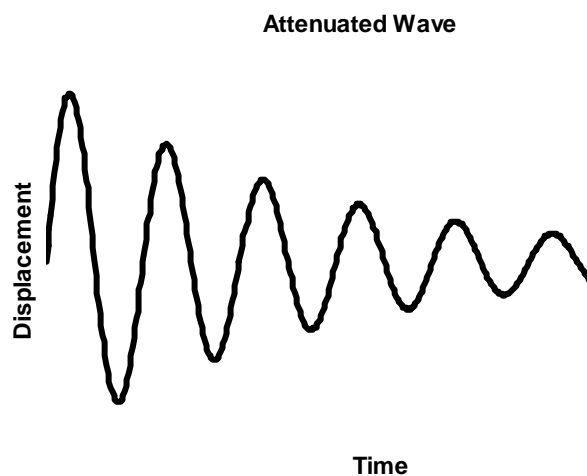

Fig. 5
Some repeating patterns gradually change in size. For example the pure note from a tuning fork as it gradually fades, (attenuates). See Fig. 5. and amplitude modulated (AM) radio signals section 4.3.